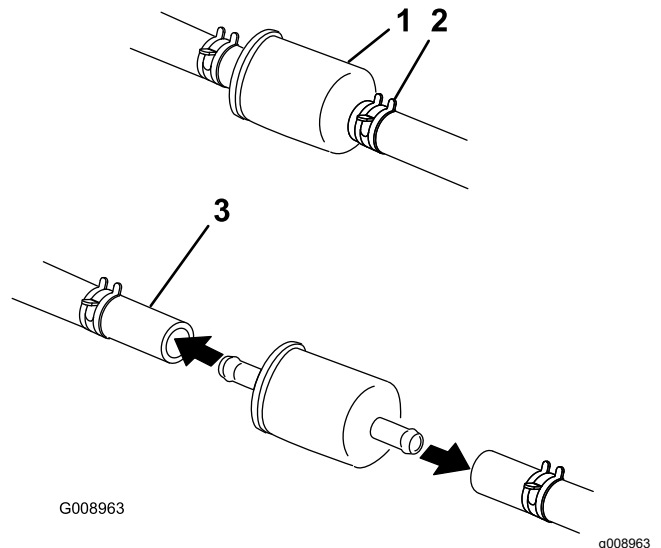

Figure 57
5. Replace the fuel filter (Figure 57).